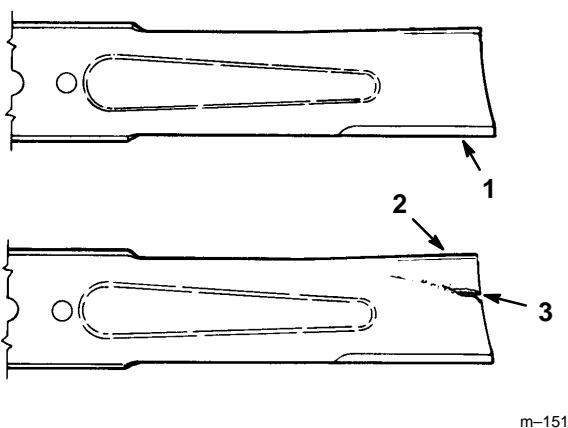

Figure 30
1. Inspect the cutting edges (Fig 30). If the edges are not sharp or have nicks, remove and sharpen the blades. Refer to Sharpening the Blades on page 32.
2. Inspect the blades, especially the curved area (Fig. 30). If you notice any damage, wear, or a slot forming in this area (item 3 in Fig. 30), immediately install a new blade.